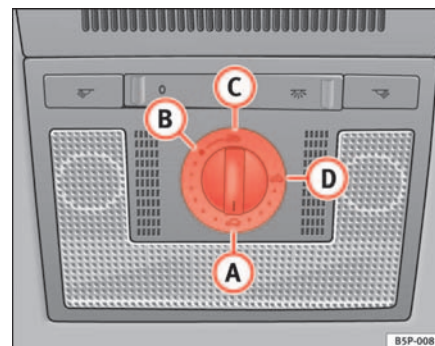

Fig. 70 Detail of the sunroof: rotary button for sliding/tilting sunroof ►
- Turn the rotary button to position **A** ⇒ page 108, fig. 70 ⇒ .